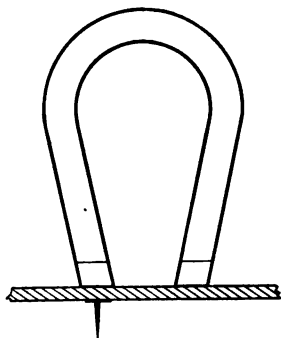

FIG. 204
**311. Magnetic Action across an Insulator.** — *Magnetic force may act across an insulator, — in some cases very readily.* Iron filings strewn on a card will show the influence of lines of force from a magnet held below the card. Fig. 204 shows a tack held to a piece of glass by force from a magnet above it. Magnets will attract bodies at considerable distances through air, and many other examples might be cited.